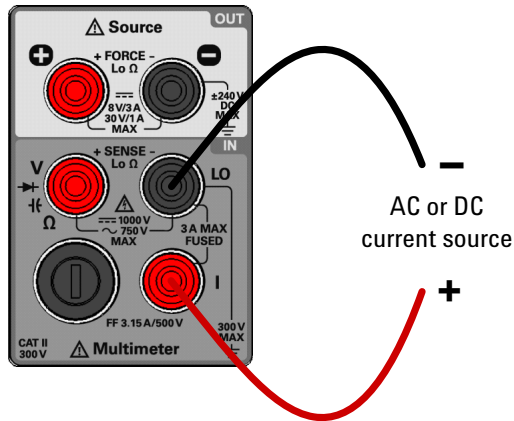

Figure 2-2 Terminal connections for current measurements
- 2 Connect the red and black test leads to input terminals **I** (red) and **LO** (black) respectively as shown in Figure 2-2.